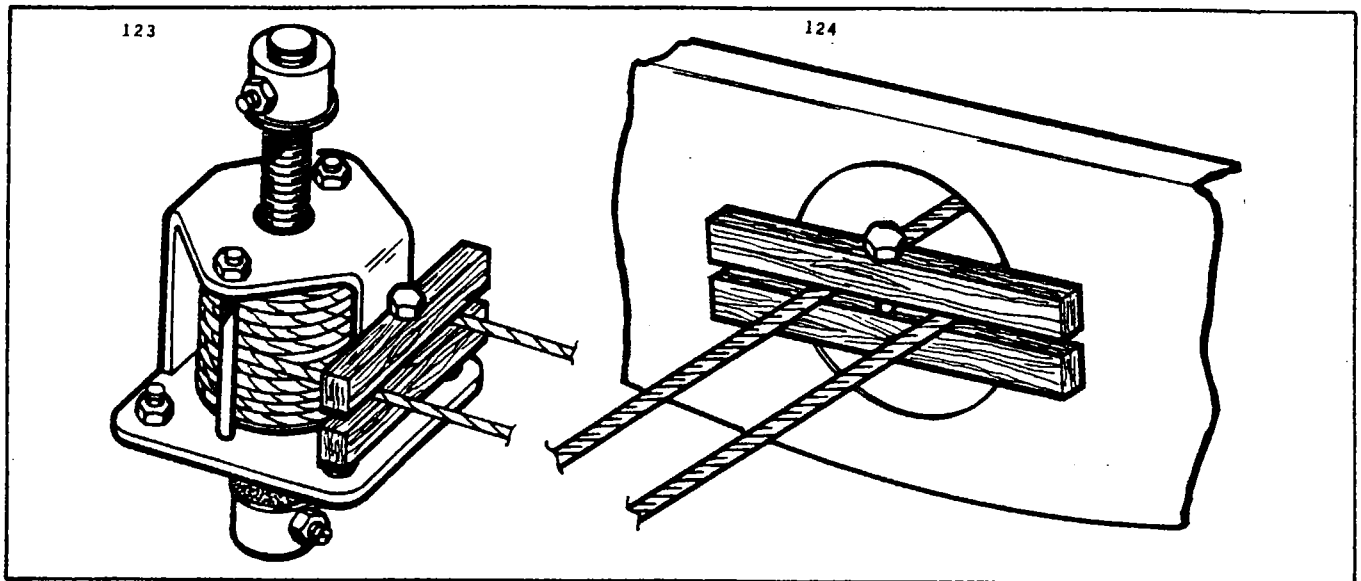

Figure 5-8. Methods of Blocking Trim Cables
- f. Block the forward trim cables (6) at the trim screw assembly within the control pedestal and the aft cables (13) at bulkhead 317.75, to prevent the cables from unwrapping from their drums, by one of the methods shown in Figure 5-8. (If the aft screw assembly (19) is also to be removed, then remove the access plate attached to the underside of the horizontal stabilizer and block the cables at the screw assembly instead of in the fuselage.)
- g. Mark one set of cable ends to facilitate reinstallation and disconnect the cables at the turnbuckles (12).
- c. Block the trim cables to prevent them from unwrapping at the screw assembly within the horizontal stabilizer and within the fuselage at the bulkhead at station 244.0 by one of the methods shown in Figure 5-8. (If the trim assembly within the fuselage is also to be removed, then block the cables at the trim screw assembly in the control pedestal.)
- d. Mark one set of cable ends within the fuselage to facilitate installation and disconnect the cables at the turnbuckles (12).
- f. Disconnect the electrical leads from the sender unit (35).
- g. Disconnect the trim control rod (20) from the trim screw (32).
- h. Remove the cap bolts (37) that attach the screw assembly (19) to the stabilizer spar.